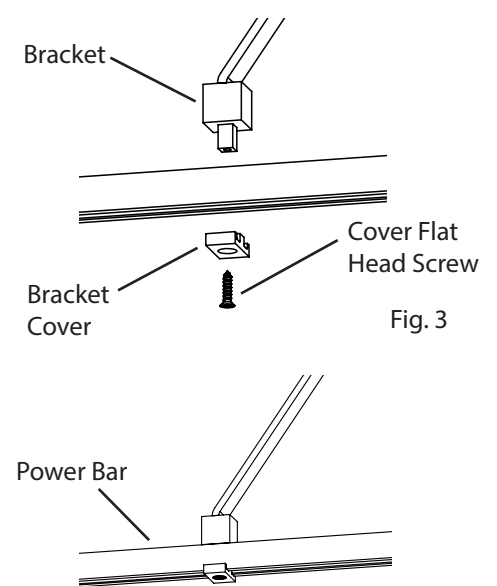

Fig. 3
4. Remove **Cover Flat Head Screw** and **Bracket Cover** and align **Power Bar** with the **Bracket** (Fig. 3).